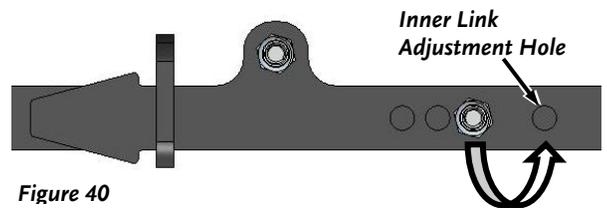
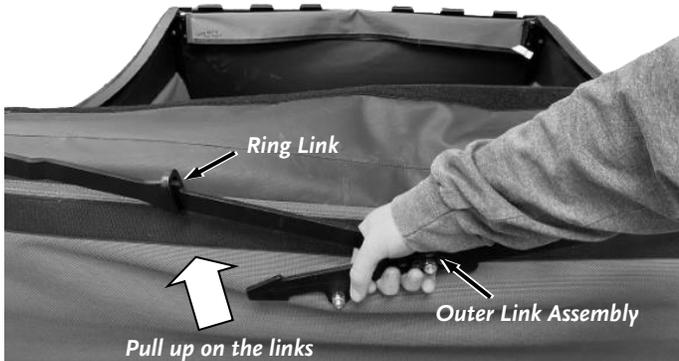
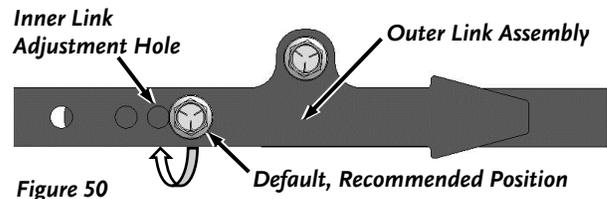

Figure 40
Figure 49
Figure 50
**Note:** The canvas is intended to be tight but if the scissor links start to bow out, an adjustment can be made. You can adjust the center bolt and nut to another hole location to reduce the difficulty of this action (**Figure 40**).
2. Set the back width of the canvas by pulling up on the links (**Figure 49**), until both links are parallel. With both links parallel, slide the ring link over to prevent the two parts from coming apart (**Figure 50**).
**Note:** The canvas is intended to be tight but if the scissor links start to bow out, an adjustment can be made. Start by adjusting the Inner Link Assembly (**Figure 40**) and adjust the canvas as needed to realign the seams in the corners. If after adjusting the inner link assembly, the outer link is still bowing, adjust the outer link as shown in (**Figure 50**).